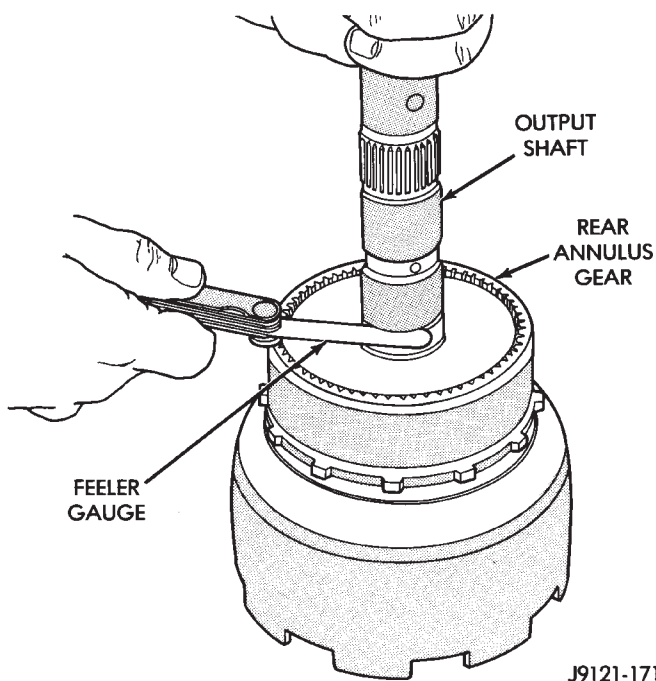

Fig. 95 Checking Planetary Geartrain End Play
(22) Turn planetary geartrain assembly over so driving shell is facing workbench. Then support geartrain on wood block positioned under forward end of output shaft. This allow geartrain components to move forward for accurate end play check.
(23) Check planetary geartrain end play with feeler gauge (Fig. 95). Gauge goes between shoulder on output shaft and end of rear annulus support.
(24) Geartrain end play should be 0.12 to 1.22 mm (0.005 to 0.048 in.). If end play is incorrect, snap ring (or thrust washers) may have to be replaced. Snap ring is available in three different thicknesses for adjustment purposes.